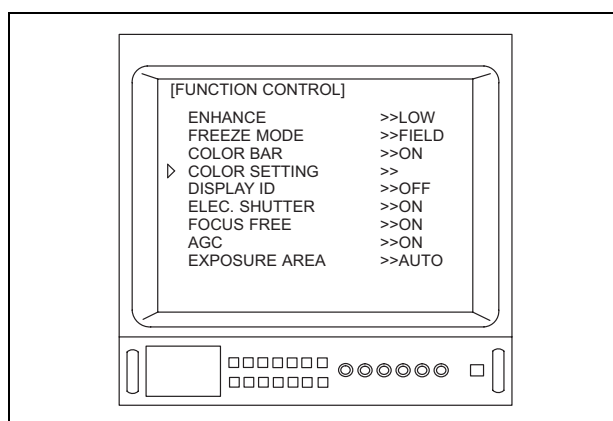

Figure 5.21
4. Depress the menu switches “” or “”, or the “” key on the keyboard move the arrow “” to “COLOR SETTING” (see Figure 5.21).
- When the OTV-S7V is connected to the ENF-V, CYF-V/VA or HYF-V, “ELEC. SHUTTER” and “EXPOSURE AREA” shown in Figure 5.21 are not displayed.
- When the OTV-S7V is connected to the LTF-V3 or A500**A series, “EXPOSURE AREA” shown in Figure 5.21 is not displayed.
- When the OTV-S7V is connected to a camera head without the focus free function, or to a videoscope, “FOCUS FREE” shown in Figure 5.21 is not displayed.
- Depending upon the OTV-S7V’s settings, the menus shown in Figures 5.21, 5.22, 5.23 and/or 5.24 may appear different from those displayed on the video monitor.
4. Depress the menu switches “” or “”, or the “///” key on the keyboard to move the arrow “” to “COLOR SETTING” (see Figure 5.21).